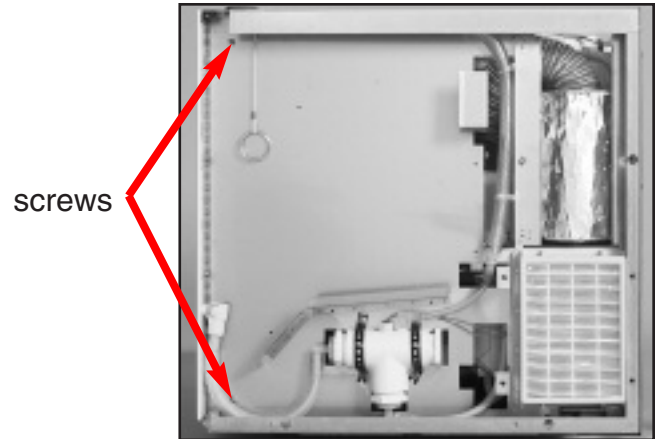

Figure 18a
2. Remove the two screws on the left of the chemical bracket and the screw on top that holds the bracket to the door latch bar (Figure 18a and b).